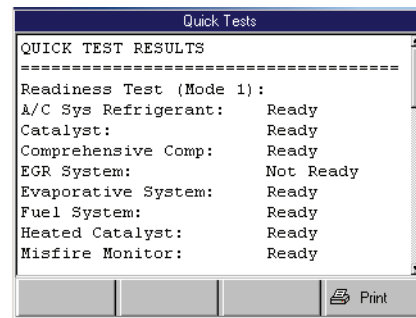

Figure 3.13: Quick Test Results Screen
- If the "Performing Quick Tests" message and then the Global OBD II Quick Test results screen appears (Figure 3.13), continue with Step 3: View the OBD II Quick Test Results on page 19.